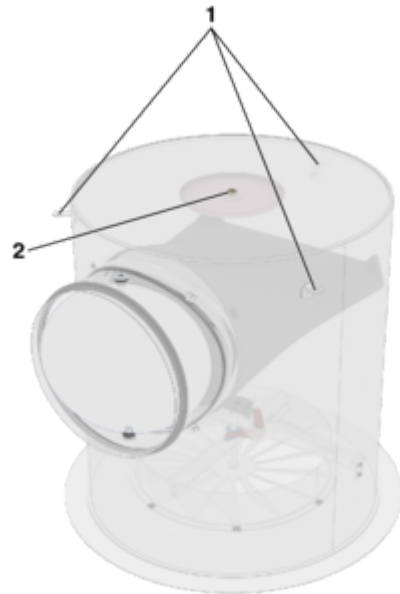

Fig. 2: RFD-V fixing options
1. ▶ Attach suspensions such as ropes or hangers (provided by others) to the ceiling and suspend the swirl diffuser using suspension brackets (Fig. 2/1).
2. ▶ Fasten the threaded rod (M8, provided by customer) to the ceiling, fasten the swirl diffuser to the threaded rod using a captive nut (Fig. 2/2).